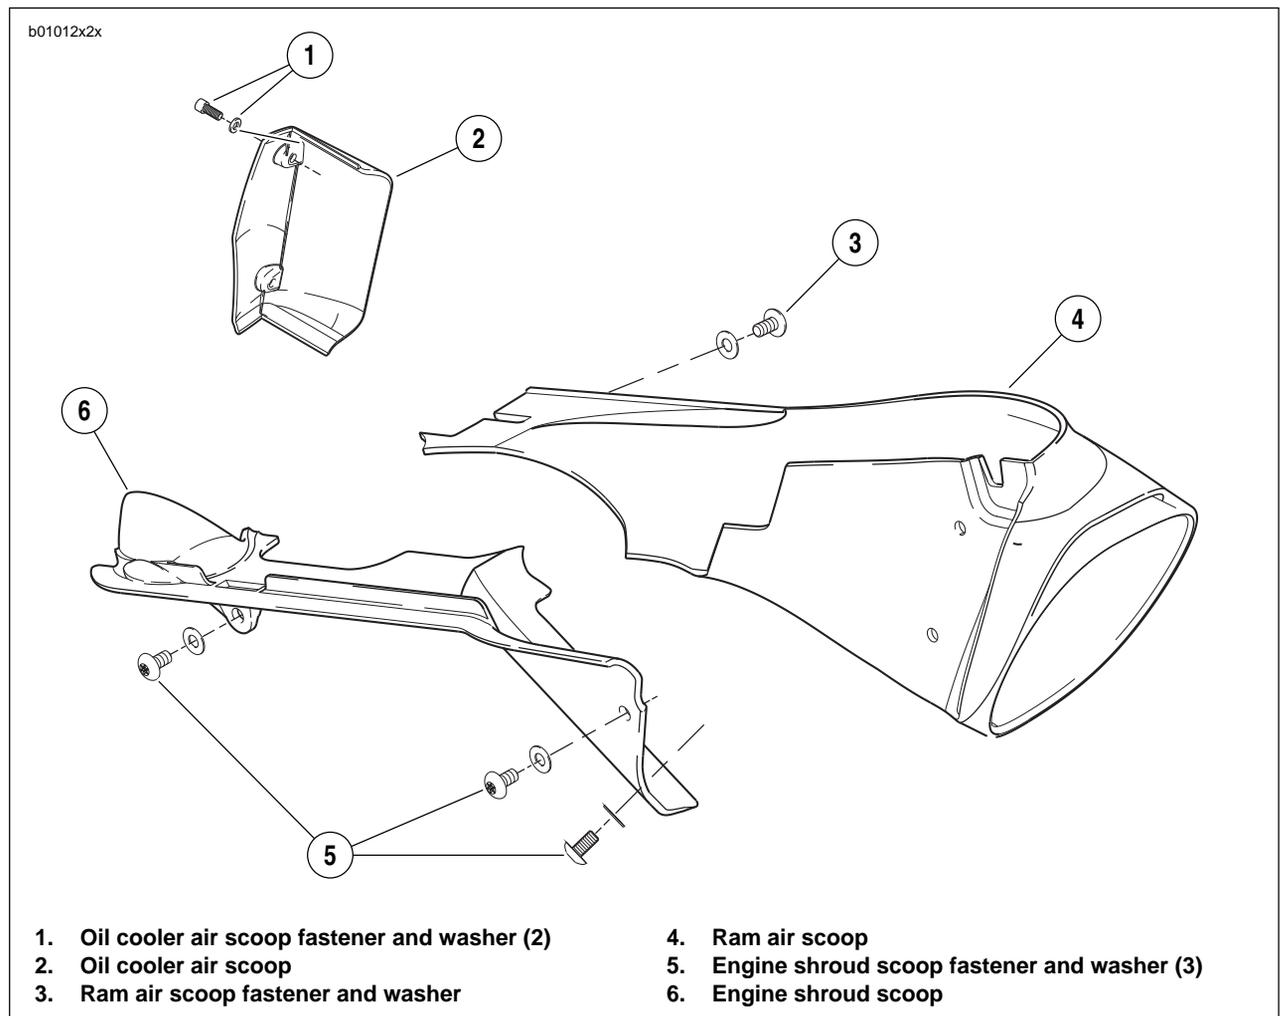

Figure 2-114. Ram Air Scoop, Engine Shroud, Oil Cooler
1. See Figure 2-114. On left side of bike, locate ram air scoop (4).
2. Remove three ram air scoop fasteners (3).
3. Remove ram air scoop (4).
1. See Figure 2-114. Position ram air scoop (4).
2. Install ram air scoop (4) with three fasteners (3). Tighten to 12-36 **in-lbs** (1-4 Nm).
1. See Figure 2-114. On right side of bike, locate engine shroud air scoop (6).
2. Remove three engine shroud air scoop fasteners (5).
3. Remove engine shroud air scoop (6).
1. See Figure 2-114. Position engine shroud air scoop (6).
2. Install engine shroud air scoop (6) with three fasteners (5). Tighten to 12-36 **in-lbs** (1-4 Nm).
1. See Figure 2-114. On left side of bike, locate oil cooler air scoop (2).
2. Remove two oil cooler air scoop fasteners (1).
3. Remove oil cooler air scoop (2).
1. See Figure 2-114. Position oil cooler air scoop (2).
2. Apply **LOCTITE 272** (red) to oil cooler air scoop fasteners (1) and tighten to 120-144 **in-lbs** (14-16 Nm).